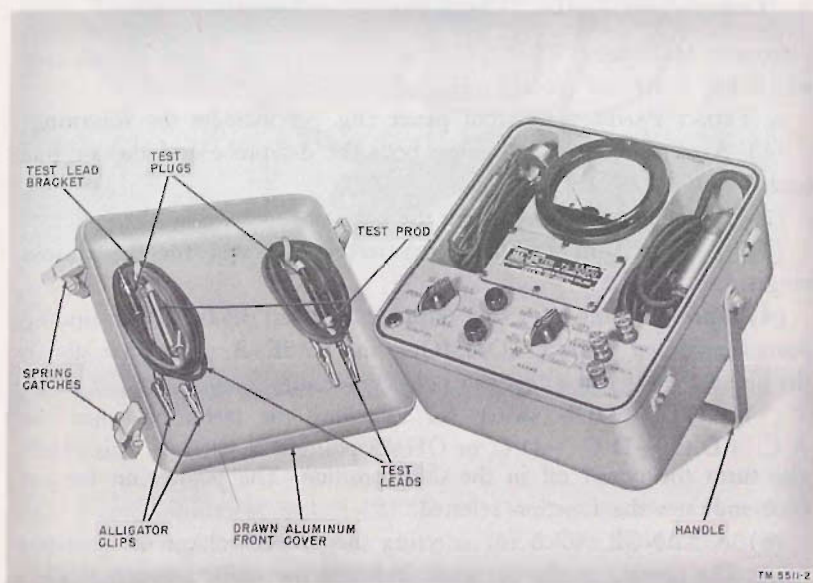
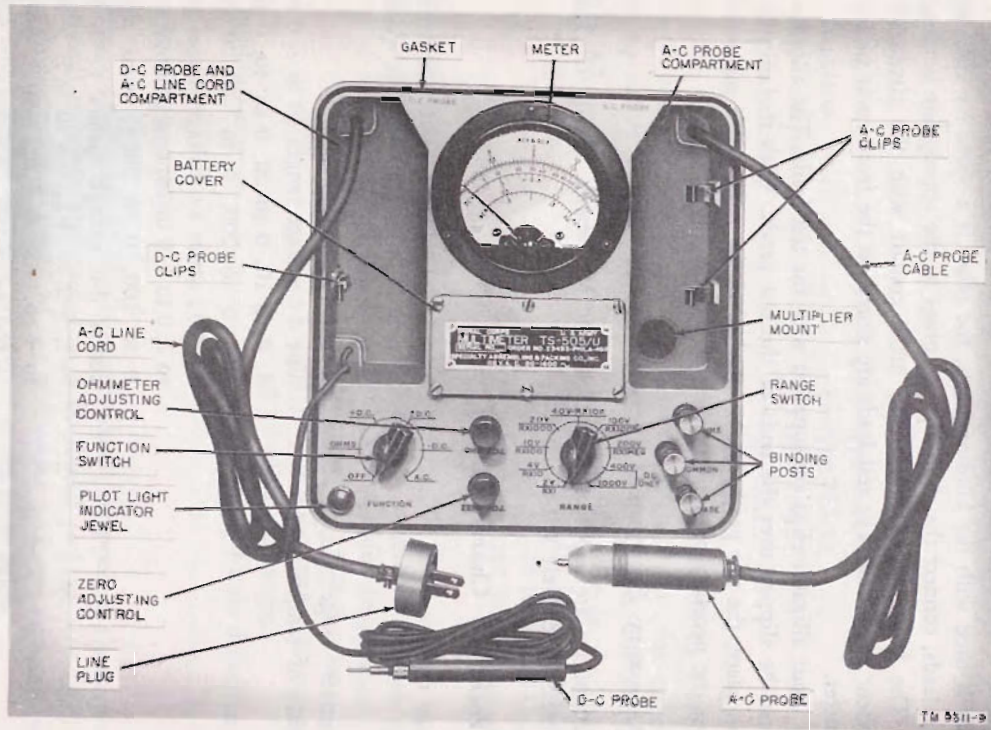
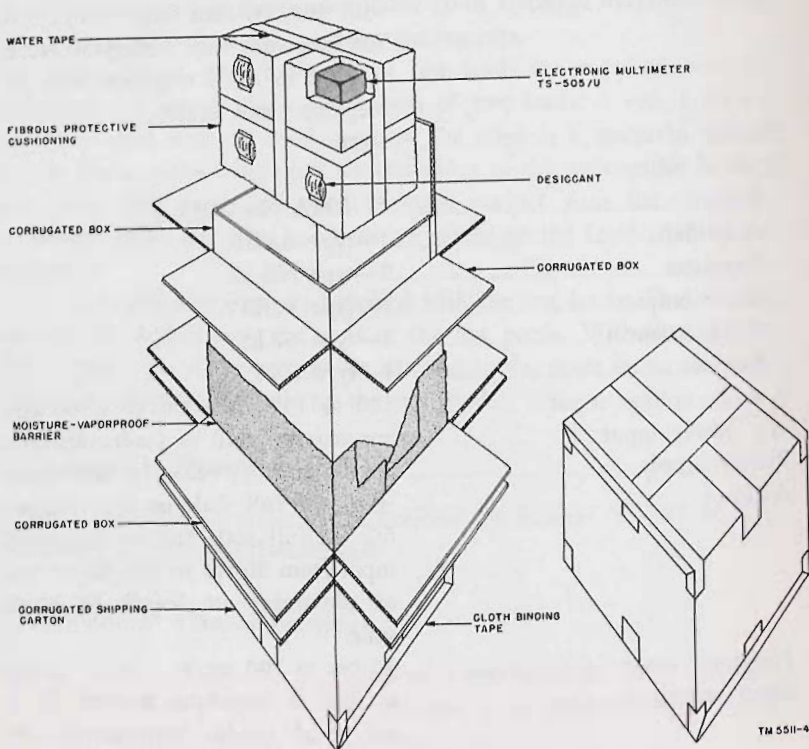

Figure 2. Electronic Multimeter TS-5051U, with handle locked in position.
Figure 3. Electronic Multimeter TS-505/U, front panel.
Figure 4. Electronic Multimeter TS-505/U, packing details.
a. DESCRIPTION OF ELECTRONIC MULTIMETER. (1) Electronic Multimeter TS-505/U is a general purpose a-c (alternating-current) and d-c (direct-current) vacuum-tube voltmeter and a d-c ohmmeter. It is a self-contained unit.
(2) The cover of the multimeter is attached with four spring catches (fig. 2). Two sets of test leads for use with the multimeter are contained in the cover. The handle may be pivoted and locked into position to act as a stand, thus permitting the operator to place the multimeter at a comfortable viewing angle (fig. 2). Six screws are used to attach the rear cover of the multimeter. These screws serve as legs which protect the meter case when it is placed in a horizontal position.
(3) The multimeter is made completely watertight by means of two peripheral rubber gaskets (on the back and on the front of the front panel); by rubber gaskets behind the meter and the battery cover; and by O rings, or washers, behind the potentiometers, the switches, the binding posts, and the pilot light indicator jewel.
c. EQUIPMENT FEATURES. (1) Voltages and resistances are measured by a specially calibrated milliammeter. The d-c and a-c voltages are read on the outer arc (black) of the scale (fig. 3). The resistance scale is the second largest arc (green). The zero center d-c scale is the third largest arc (blue). The 0- to 2-volt a-c range is the innermost arc (purple). The meter is hermetically sealed.
(2) There are nine d-c voltage ranges which permit measurement of voltages from .05 to 1,000 volts. The appropriate voltage range is selected with the RANGE switch. The input resistance is 20 megohms on all d-c voltage ranges except the 1,000-volt range; for the 1,000-volt range, the input resistance is increased to 50 megohms.
(3) There are seven a-c voltage ranges which permit measurement of voltages from .05 to 200 volts. The appropriate voltage range is selected with the RANGE switch. The input capacity is 2 uuf (micromicrofarads)
a. FRONT PANEL. The front panel (fig. 3) includes the following:
(1) A compartment for storing both the d-c probe and the a-c line cord.
(2) A compartment for storing the a-c probe.
(3) A 0- to 1-ma (milliampere) meter calibrated for the various ranges.
(4) Three binding-post type terminals for test leads. These binding posts are labeled OHMS, COMMON, and CASE. A rectangular slot in the binding posts will accept pin jacks, spade lugs, or wire.
(5) A FUNCTION switch for switching the meter on when the A C, +D C, ±D C, -D C, or OHMS position is selected. This switch also turns the power off in the OFF position. The pointer on the bar knob indicates the function selected.
(6) A RANGE switch for selecting the proper voltage or resistance range. The pointer on the bar knob indicates the range selected.
(7) An ohmmeter adjusting control (OHM ADJ) to compensate for the decrease of the ohmmeter battery voltage.
Electronic Multimeter TS-505/U is individually wrapped in a waterproof, fiberboard container and packed in a fiberboard packing case (fig. 4). The dimensions and weight of the multimeter packaged complete with tubes and technical literature are shown in the table below.
(1) Place the packing case (fig. 4) in a convenient location where it may be opened easily.
(2) Cut the cloth binding which seals the exterior carton in such a manner as to leave the carton undamaged. Open the carton. Remove the inner corrugated box and open it.
(3) Lift the moisture-vaporproof barrier from the carton. Open the side of the carton and pull out the inner carton.
(4) Carefully cut the tape sealing the inner fiberboard box so that the carton will not be damaged. Open the carton. Remove the inner corrugated box and open it.
(5) Remove the cushioning and desiccant from the inner fiberboard box.
(6) Carefully lift the multimeter from the inner carton and place it on a solid table or workbench.
(7) Place the cushioning and the cartons into the outer carton for future use. They can be used again when the multimeter is repacked for storage or shipment (ch. 5).
(8) Check the contents against the master packing slip and against the list of components in paragraph 4. The test leads will be found on the front cover.
c. **INSPECTION.** (1) Inspect the multimeter thoroughly. Make sure that it has not been damaged in shipment or during unpacking. Inspect the carrying handle to see that it swings freely on the pivot point and will lock in position (fig. 2) to support the meter in an inclined position.
(2) Check the four catches on the front cover. Remove the front cover by unfastening the catches.
(3) The multimeter is shipped with the tubes installed. See that the tubes are seated firmly in their sockets *only if the multimeter is inoperative*. To inspect the tubes, the back cover must be removed. Refer to paragraph 42a for instructions.
(4) If inspection discloses that the multimeter has been damaged, fill out the proper forms and forward them through channels (par. 2).
### 13. Controls (fig. 3)